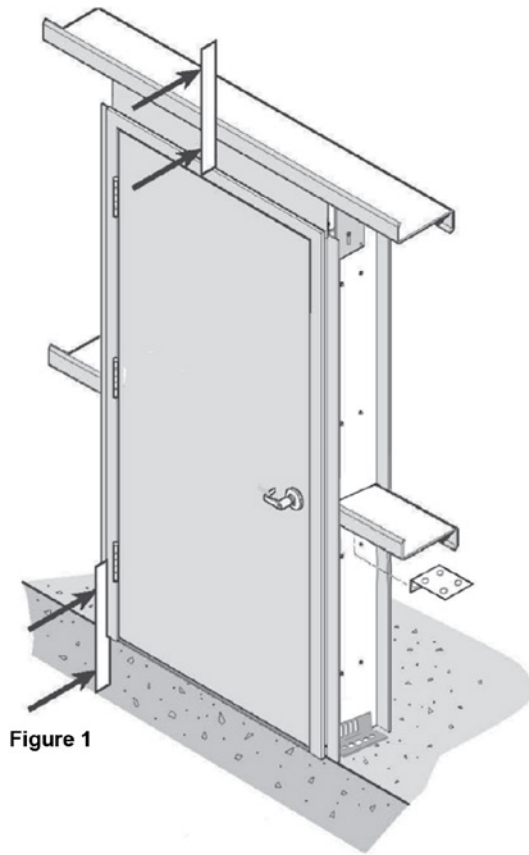

Figure 1
1. After uncrating, position the door under the girt where desired. The exterior of the frame and subframe should be directly under the outside face of the girt. (Figure 1)